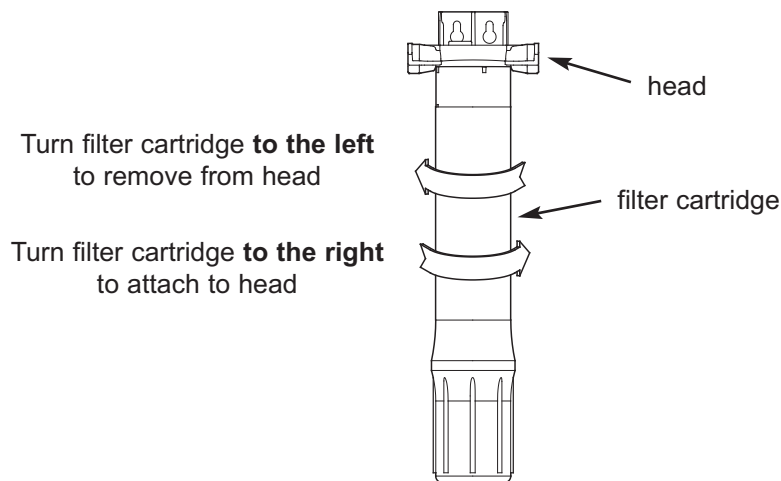

FIG. 6
2. Install the cartridge onto the water filter head assembly, as shown in Figure 6. Turn cartridge to the right to tighten.